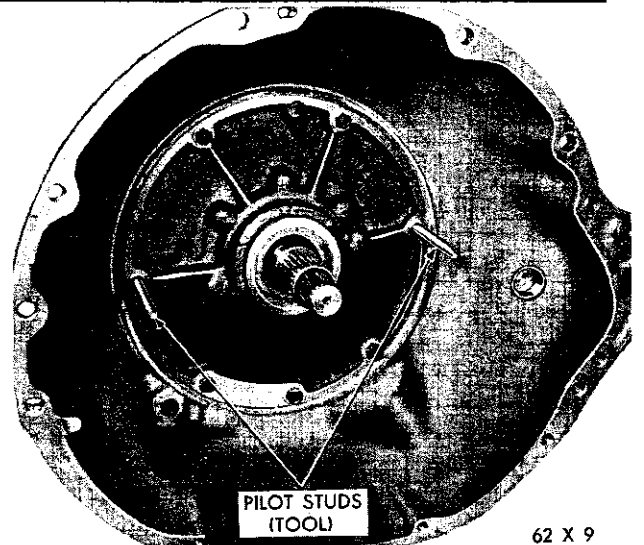

Fig. 84—Installing Front Pump and Reaction Shaft Support Assembly
- (1) Screw two pilot studs, Tool C-3288 in the front oil pump opening in the case (Fig. 84). Install a new gasket over the pilot studs.
- (2) Place a new rubber seal ring in the groove on the outer flange of the oil pump housing. Make sure the seal ring is not twisted. Coat the seal ring with grease for easy installation.
- (3) Insert aligning Tool C-3881 through the pump body and engage with inner rotor.
- (4) Install the assembly in the case, tap lightly with a soft mallet if necessary. Place the deflector over the vent opening and install four pump body bolts, remove pilot studs and install the remaining bolts. Snug bolts down evenly, then tighten to 150 inch-pounds torque.